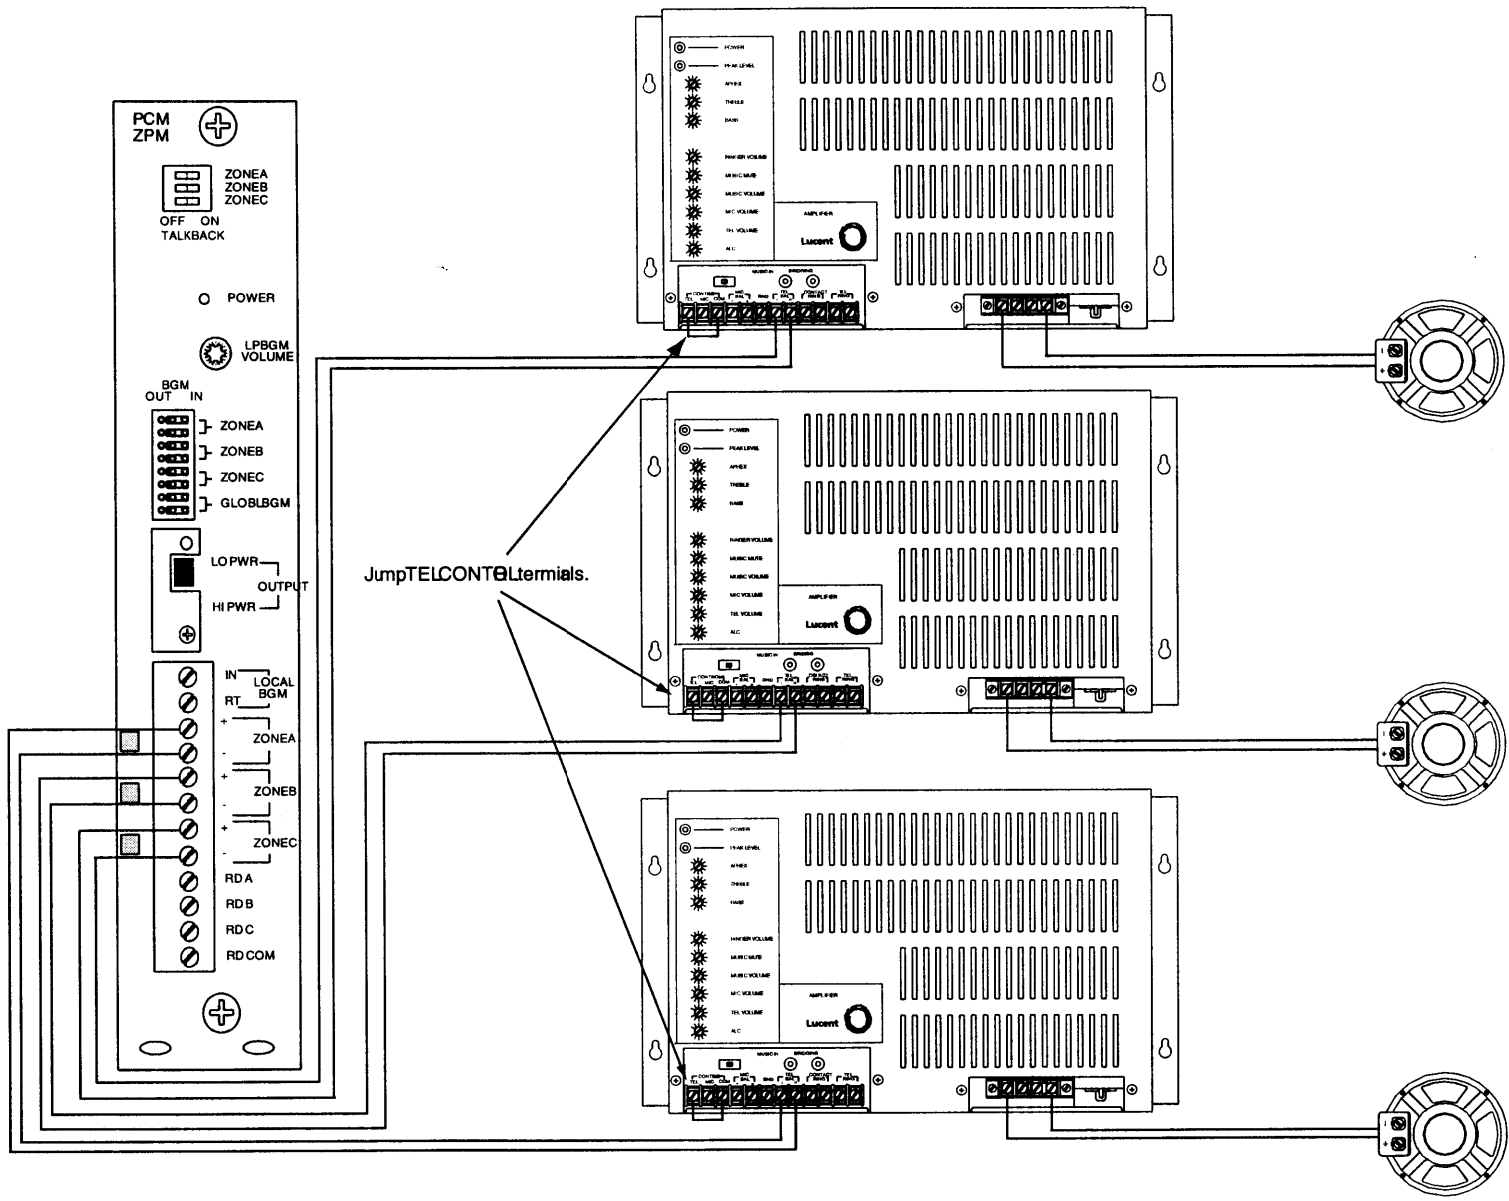

Figure A-2: Typical Application - Connection to Slave Amplifiers
- \* To Slave Amps (see Figure A-2 on page 54)